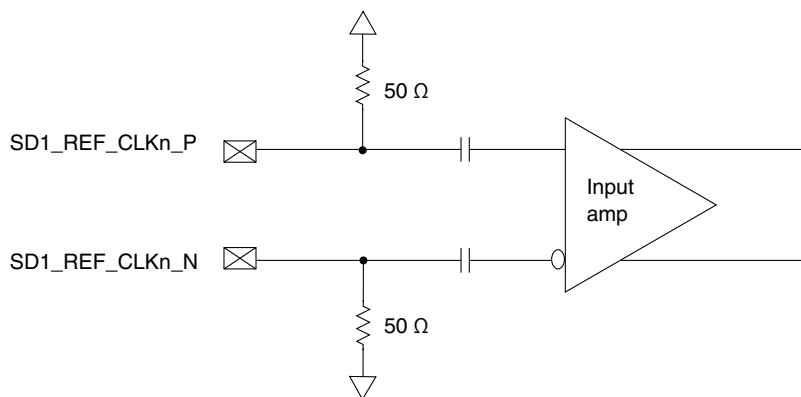

Figure 63. Receiver of SerDes reference clocks
- The SD1_REF_CLKn_P and SD1_REF_CLKn_N are internally AC-coupled differential inputs as shown in Figure 63. Each differential clock input (SD1_REF_CLKn_P or SD1_REF_CLKn_N) has on-chip 50- Ω termination to SGNDn followed by on-chip AC-coupling.